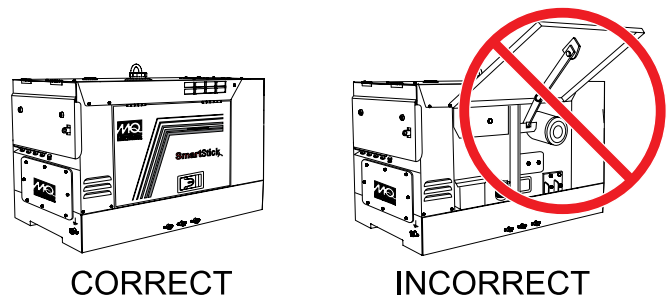

Figure 26. Enclosure Doors (Closed)
4. Close all enclosure doors (Figure 26).